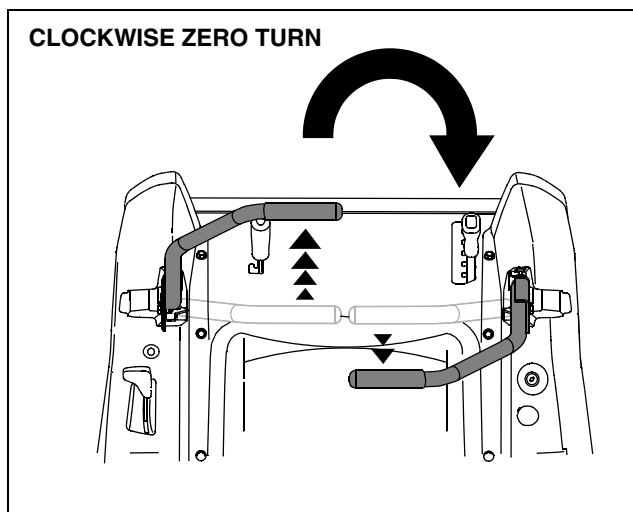

Figure 17
- To turn clockwise, slowly move the left control lever forward while simultaneously moving the right control lever rearward. See Figure 17.